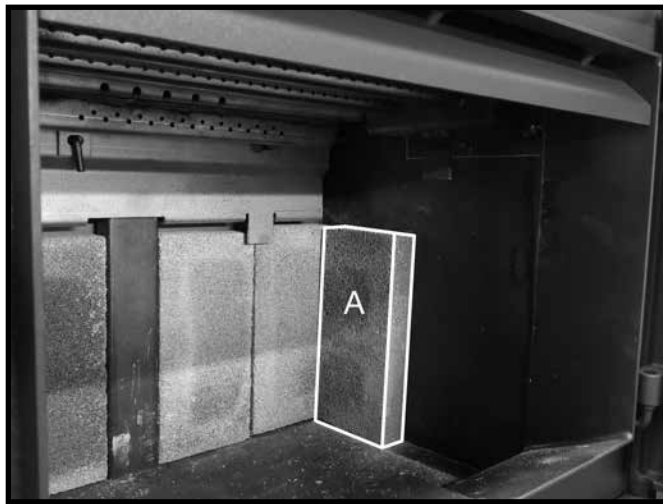

Figure 27: 1st side wall brick in place.
4. For the side walls: Stand an "A" firebrick against the side wall and up against the rear wall firebrick (Figure 27).